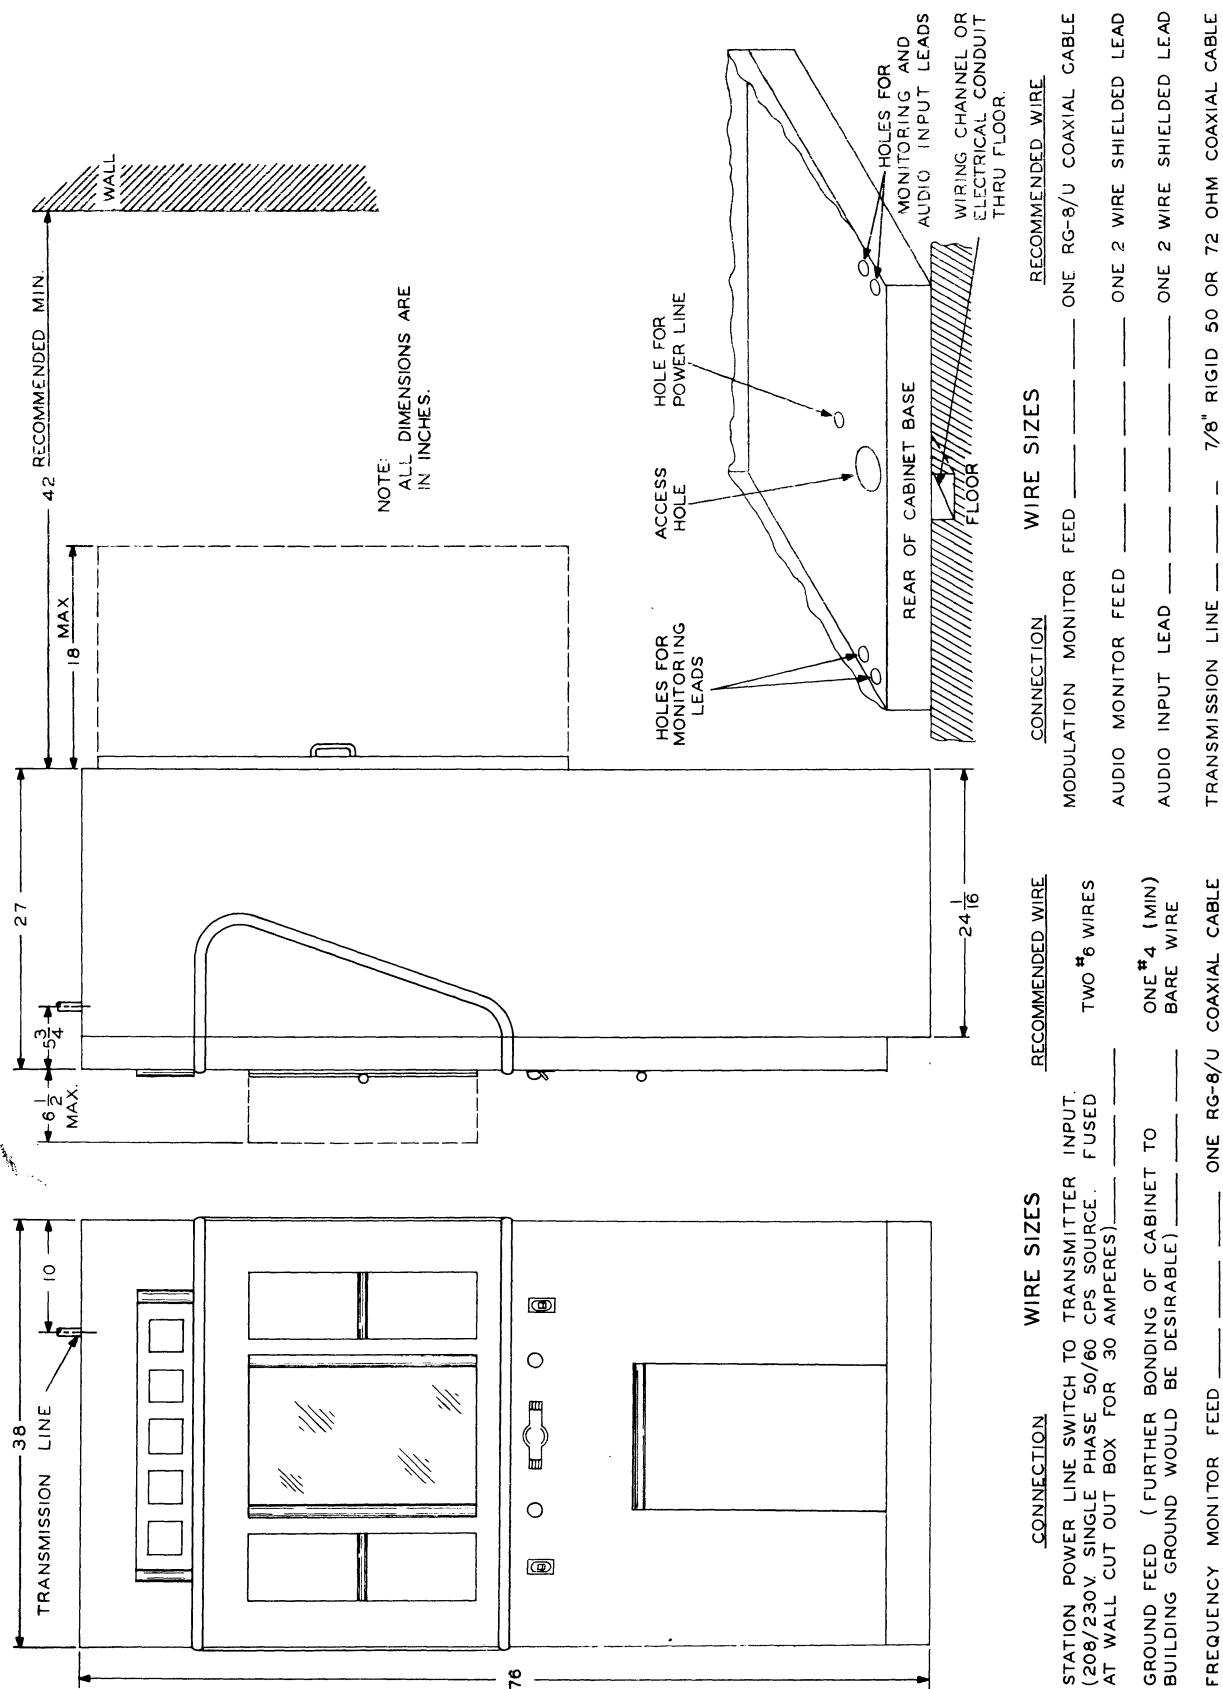

Figure 2-1. Typical Installation Diagram 20V Transmitter
(b) Location of the Transmitter. - It is recommended that the transmitter be placed in its permanent location before any of the units which were removed for shipping are replaced. The comparatively simple arrangement to accommodate the power and audio input, frequency monitoring, modulation monitoring and audio monitoring connections is illustrated in figure 2-1. The requirements of the illustration may be met by installing the necessary conduit in a concrete floor, or by installing a wiring trench of sufficient size. Another alternative would be to install a false floor under which the necessary wires and cables may be placed. The trench will have to accommodate a two wire power cable, a ground wire, two shielded twisted pairs, and two RG-8/U coaxial cables. It is also very desirable to have several ties from the transmitter cabinet to the building ground system.
(1) Input Connections. - All input connections should be brought in through the grommets in the bottom of the cabinet. (See figure 2-1.) A large convenient hand access hole is located on the floor of the transmitter to facilitate handling of the wires from the wiring trench.
a. Power. - Refer to the Installation Diagram, figure 2-1, for proper wire sizes. Bring the power lead and ground wire in through the large grommet in the floor of the transmitter and run them forward between the high voltage filter chokes to the front panel. Connect the two power wires to the two outer terminals on terminal board E-100. Connect the ground wire to the center terminal on E-100.
(2) Monitoring Connections. - All monitoring connections are brought in through the smaller grommets conveniently located between the heavy components and the cabinet wall. (See figure 2-1.)
(3) Transmission Line Connection. - The transmission line is connected to the short length of 7/8" rigid coaxial connector line which protrudes from the top of the transmitter cabinet. This connector is replaced through the hole in the top of the transmitter cabinet. The square metal plate on the lower part of the connector is attached by four screws. The brass strap on the feed-through insulator on the side of the RF network compartment is attached to the bottom of the coaxial connector.
(4) Remote Meter. - Holes are provided in the front portion of the RF tank box for mounting a bracket to hold the remote meter. This bracket (Collins Part Number 505 1831 002) may be obtained from the Collins Radio Company. The meter may also be obtained from Collins. Please state power output and antenna impedance when ordering.